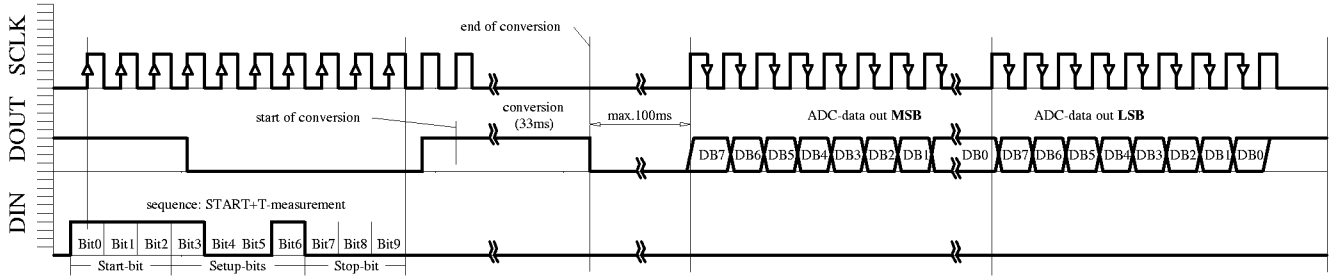

Figure1b
- Conversion start for temperature measurement and ADC-data-out "D2" (Figure1b)